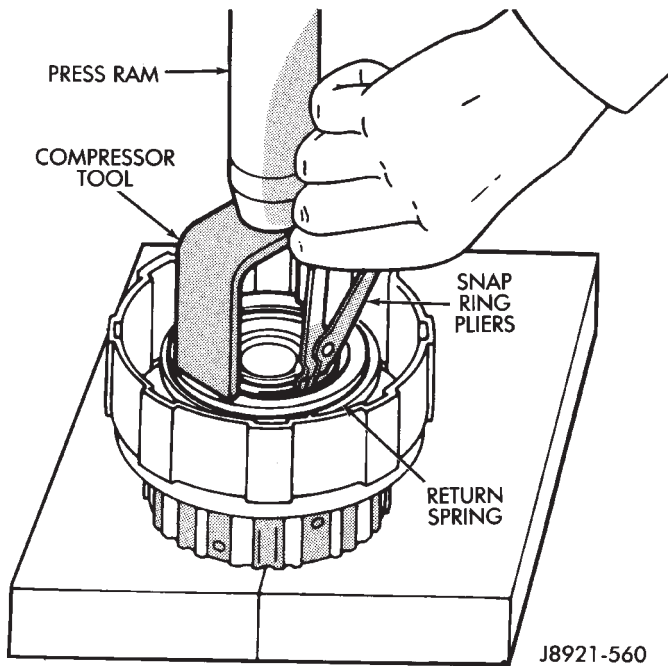

Fig. 6 Removing Piston Return Spring
(9) Compress clutch piston return springs with tool 7538 and remove clutch piston snap ring (Fig. 6).
(2) Install clutch piston in drum and install return springs on piston.
(3) Compress piston return springs with Tool 7538 and install snap ring (Fig. 6). Be sure snap ring end gap is not aligned with spring retainer tab.